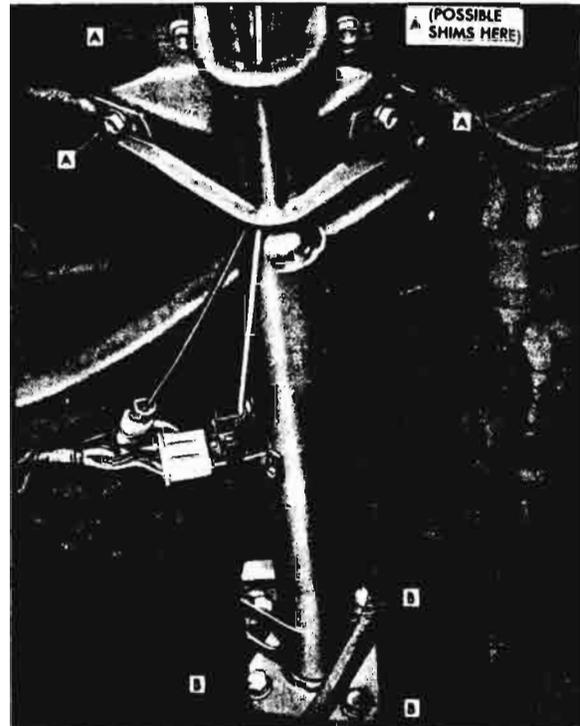

Fig. 4-23—Mast Jacket Wiring Connections and Bolts
(See Figures 4-23 and 4-24)
- 5 Remove 4 bolts and lockwashers (A), Figure 4-23, attaching mast jacket bracket to instrument panel and brace rods and three bolts, plain washers and lockwashers (B), Figure 4-23, attaching lower end of mast jacket to toe pan mounting.